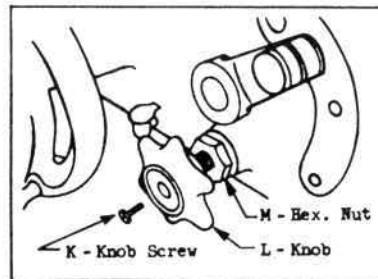

Fig. 2
12. Remove screw "K" (has left hand thread), knob "L" and nut "M" (Fig. 2).